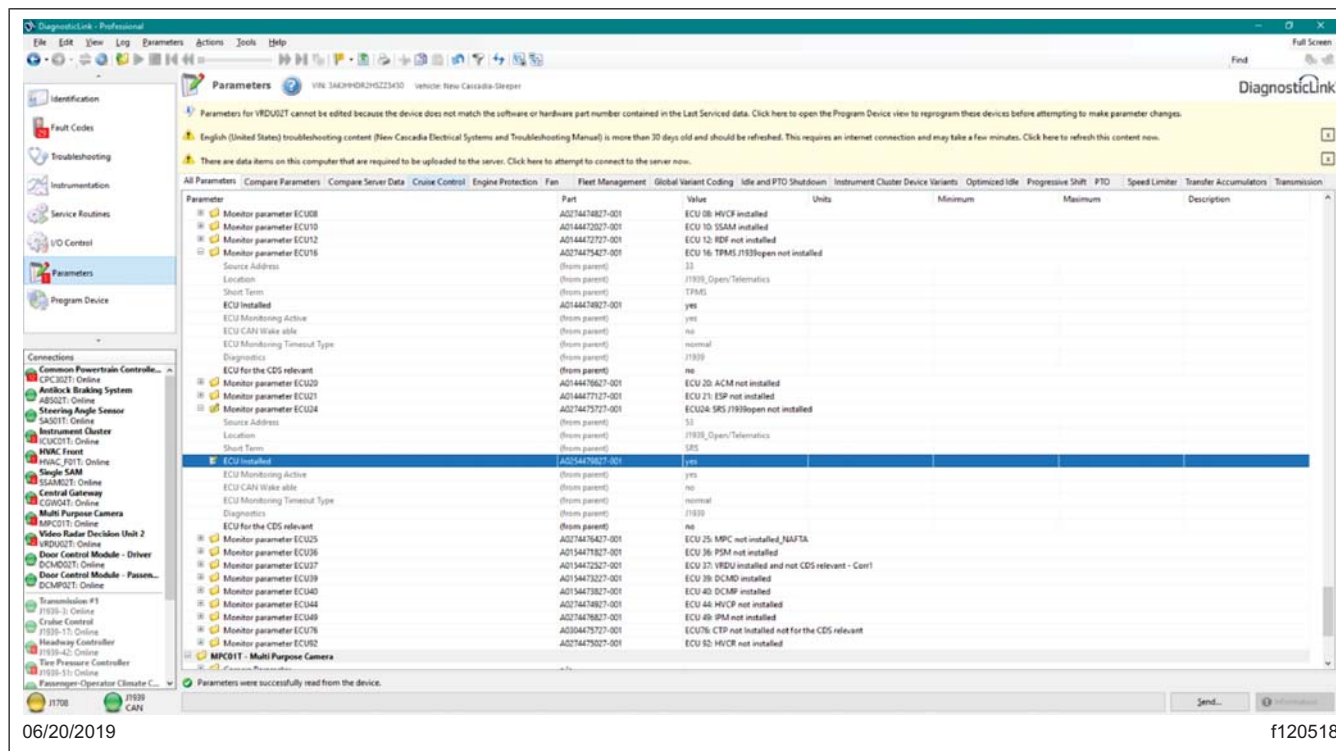

Fig. 20, Modifying the ICUC Parameter
- **ICUC:** "PID 0x43 (FTL Config)", "paramSRS" change parameter to A0414475121-001 param-SRS available, and verify value is changed to "available." See Fig. 20.